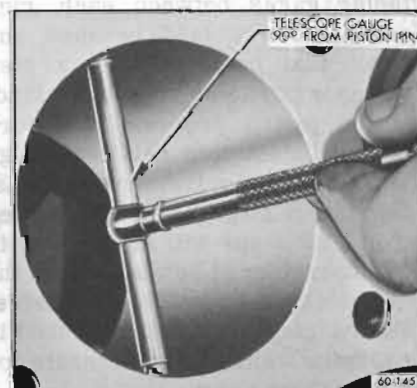

Figure 60-331—Using Telescope Gauge in Cylinder Bore
1. Expand a telescope gauge to fit the cylinder bore at right angles to the piston pin and between 1-1/2" and 2" from the top of the bore. See Figure 60-331.